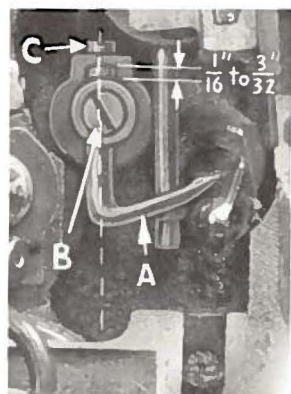

Fig. 8
Insert upper looper (A, Fig. 8) in its holder. Screw (B), holds upper looper in its holder, and permits it to be pushed in or out of turned around its shank. Insert upper looper holder into upper looper shaft, if it is not already in place. Screw (C), on clamp holds the upper looper holder in the shaft. Locate upper looper in its holder so that the shank extends  $\frac{1}{16}$  to  $\frac{3}{32}$  inch beyond holder (Fig. 8), FS, FT, FU, GD, GL, GT, and JP.
When the upper looper is at the right end of its stroke, upper looper holder should be set to position upper looper shank approximately vertical on Styles 39500 FS, FT, FU, and GT (Fig. 8).